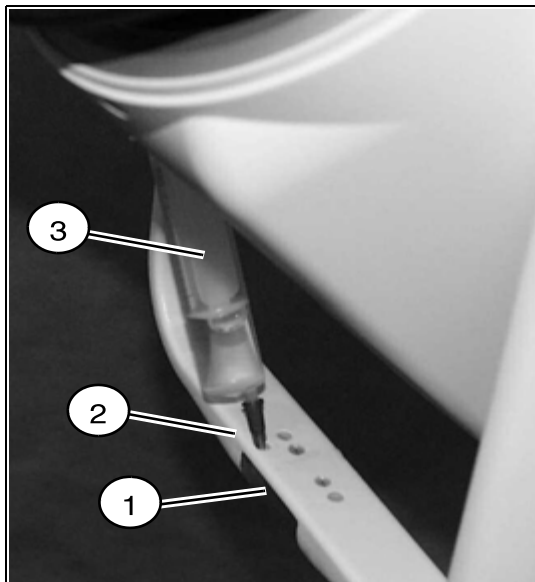

Fig. 67: Phantom 2
- Check whether the isocenter phantom (1/Fig. 67 / p. 63) is filled with water. If not, remove the screw (2/Fig. 67 / p. 63) and fill in water with a syringe (3/Fig. 67 / p. 63). There may not be any air bubbles. Screw in the screw again.